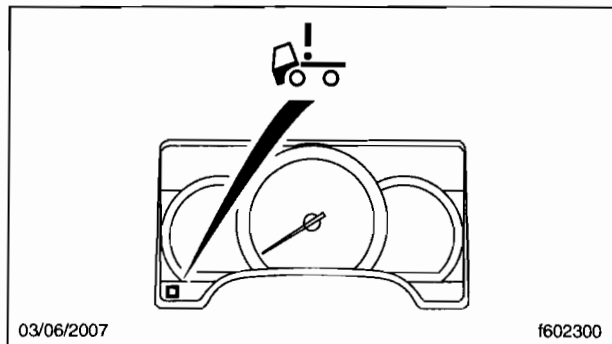

Fig. 9, Cab Tilt Warning Indicator
4. Turn ON the ignition switch, and make sure that the cab tilt warning indicator does not illuminate. If the warning indicator illuminates and the buzzer sounds, the cab is not locked completely. If this happens, tilt the cab again, repeat the lowering procedure from the beginning, and lock it again. See **Fig. 9**.